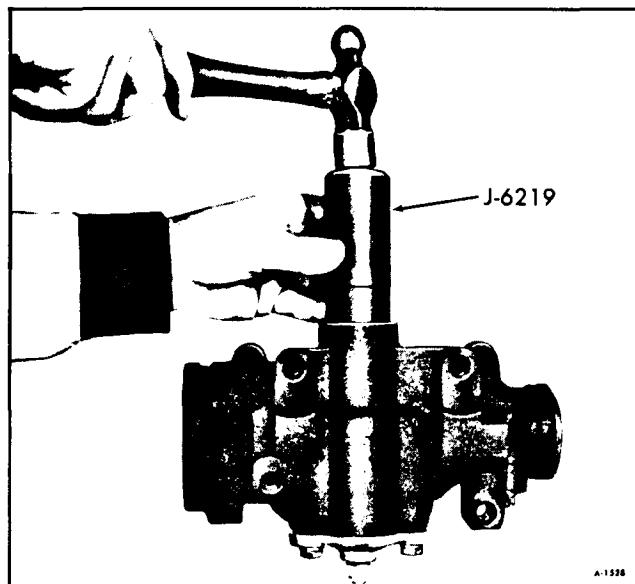

Figure 46—Installing Pitman Shaft Seals
7. Lubricate the seals thoroughly with Power Steering Fluid to install seals with Installer J-6219 (figure 46). Install the inner single lip seal first, then a back-up washer. Drive seal in far enough to provide clearance for the outer seal, back-up washer and retaining ring. Make sure that the inner seal does not bottom on the counterbore. Install the outer double lip seal and the second back-up washer in only far